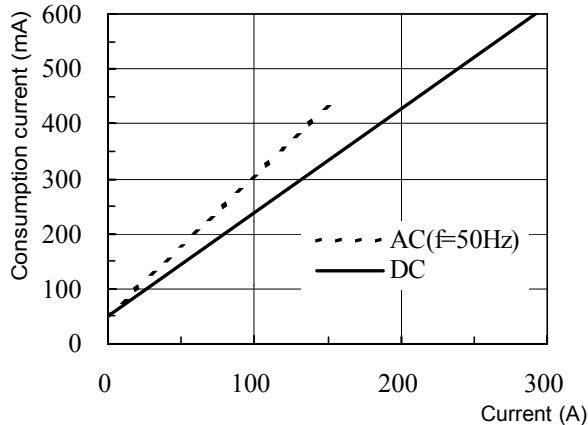

Fig.1
- The current consumption of clamp-on probes depends on the current to be measured. Confirm that the total current consumption of the clamp-on probes does not exceed the rated output current of the 3272. See Figure 1.